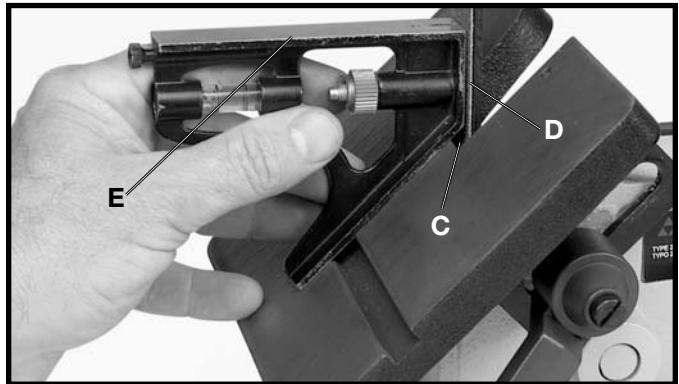

Fig. 27
The table can be tilted 45 degrees to the front, as shown in Fig. 27, by loosening lock lever (B). Use a combination square (E) check to set the table at 45 degrees to the belt and tighten lock lever (B).
**⚠WARNING: TO AVOID TRAPPING THE WORK OR FINGERS BETWEEN THE TABLE AND SANDING BELT, THE TABLE EDGE (C) SHOULD BE POSITIONED A MAXIMUM OF 1/16 INCH FROM THE SANDING BELT (D) WHEN THE TABLE IS TILTED.**